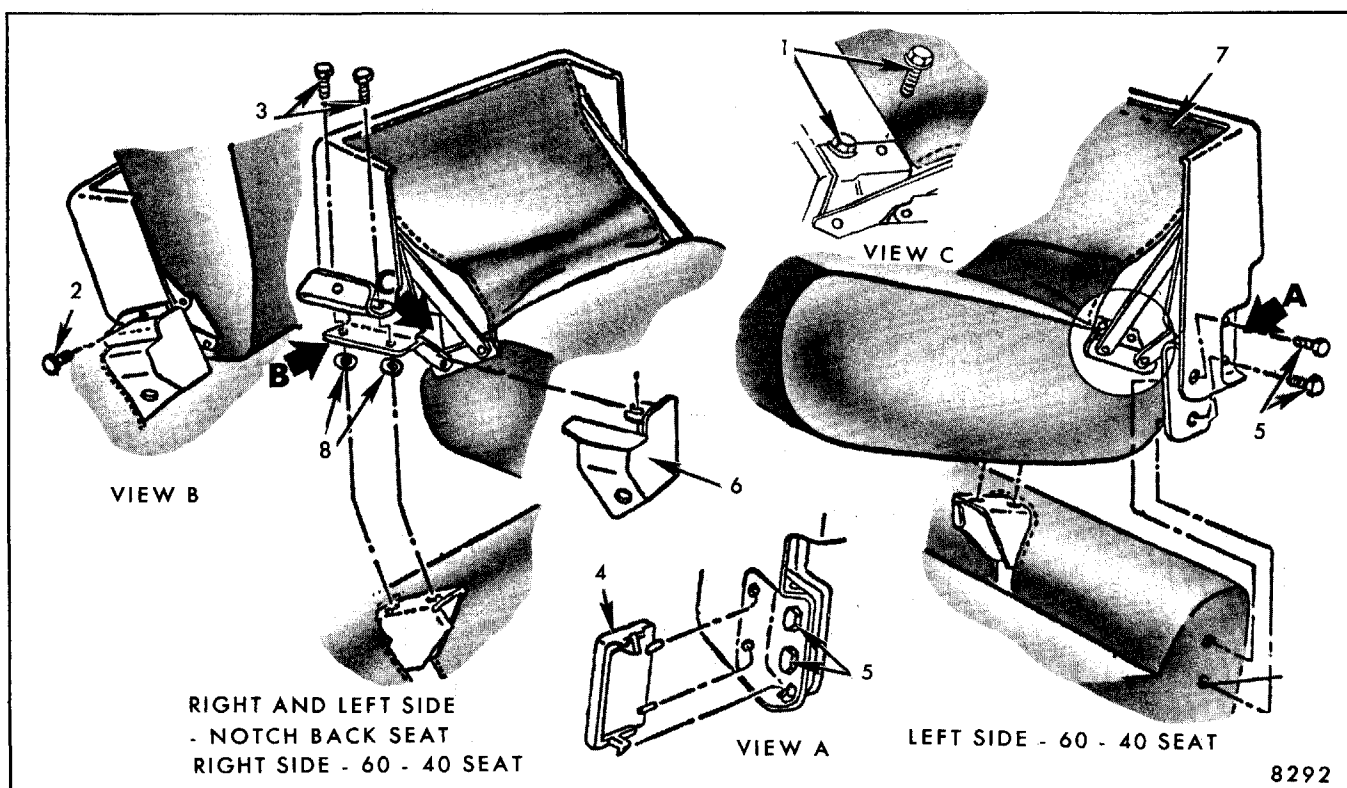

Fig. 9-88-Front Seat Center Armrest - Full Width Notch Down and 60-40 Seat - E Styles
2. Carefully pull curtain back sufficiently to remove screws securing center armrest to linkage, shown at 1 in Figure 9-88, and loosen outer screws securing curtain lower retainer to armrest.
3. Disengage armrest from support linkage and turn armrest upside-down on trim panel finishing cover. Remove staples, indicated at 7 in Figure 9-88, securing armrest curtain upper retainer; then remove armrest and curtain from armrest frame assembly.
Removal and Installation (Refer to Fig. 9-88)
2. Working between armrest and seat back, use a flat-bladed tool to carefully pry out serrated fastener, shown at 2 in Figure 9-88, at both sides of armrest on notch down seat or right side on 60-40 seat. On left side of 60-40 seat, snap off plastic cover, shown at 4 in Figure 9-88.
3. Remove armrest assembly attaching screws, shown at 3 in Figure 9-88, then remove armrest and linkage assembly from seat.
4. To install, reverse removal procedure. Prior to installing serrated fasteners, shown at 2 in Figure 9-88, check alignment and operation of armrest. Where necessary to align armrest with seat back(s), install washer(s), as required, between armrest support and support on seat.